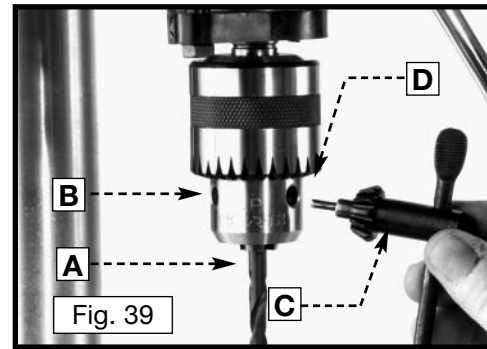

Fig. 38
IMPORTANT: When the workpiece (B) Fig. 38 is long enough, position it on the table with one end against the left side of the column (C) to prevent the workpiece from rotating. If it is not possible to support the workpiece against the column, clamp the workpiece to the table.
Oil the variable speed pulleys and the speed range shifter mechanism weekly. Use a few drops of light machine oil in the two oil holes (A) Fig. 38, located on top of the variable speed pulleys, and the hole (B), located on top of the shifter mechanism.